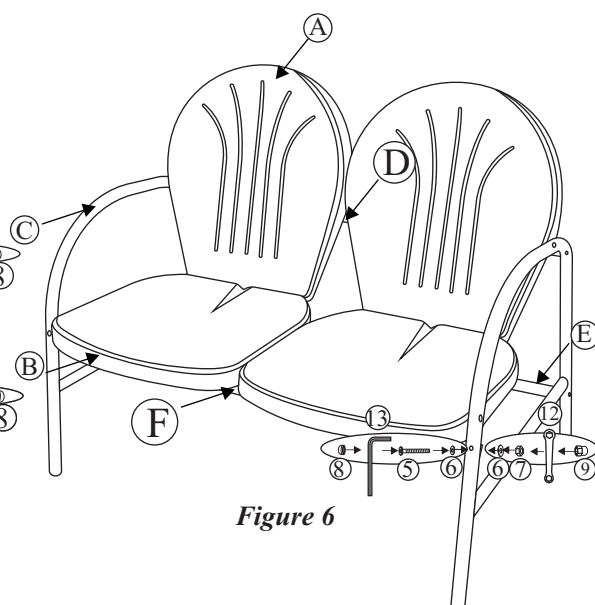

Figure 6
Step 6: Attach Front Crossbar(F) to Arm rest (C) using one 1/4"x42mm bolts (5), two Ø 6.5 x 1.0 washers (6) and one 1/4" nut (7) as (Figure 6). Tighten with hex wrench (12) and Allen Key (13). Do not over tighten. Repeat for remaining Loveseat arm. Cover nuts and bolts with covers (8 & 9).